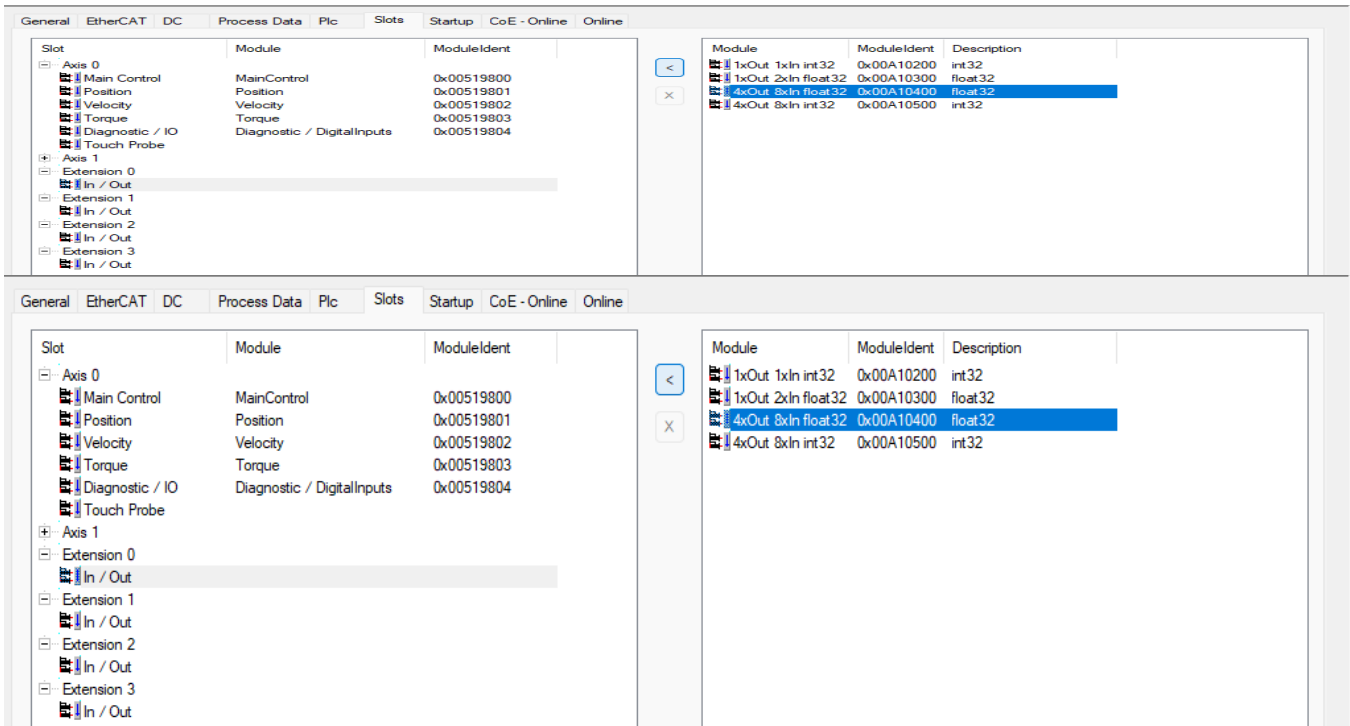

Figure 12: Flexible slot configuration in TwinCAT
- Open **I/O > EtherCAT Master > Drive > Slots** (see Figure 12).